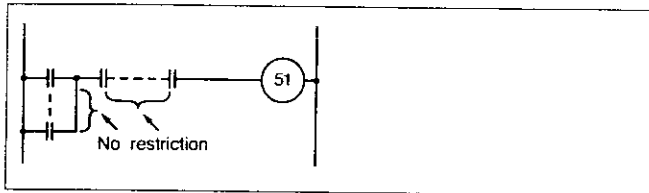

Figure 14.2
- b. There is no restriction to the number of contacts which can be connected in series or parallel (Figure 14.2).